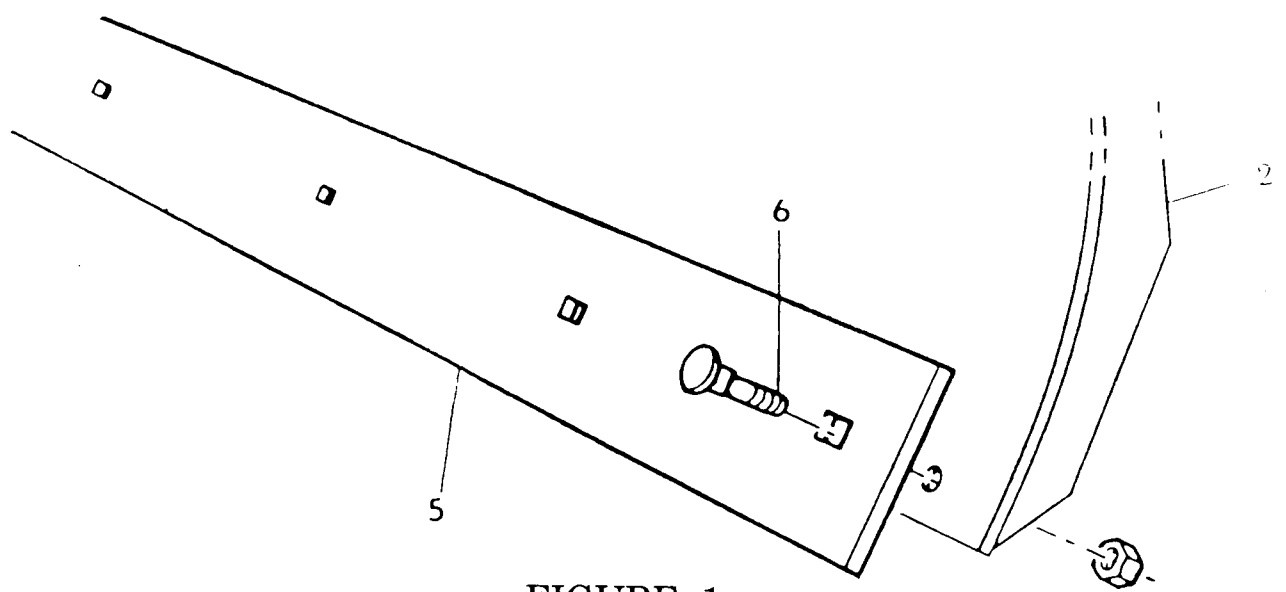

FIGURE 1
2. Attach the CUTTING EDGE (Ref. No. 5, Fig. 1) to the BLADE ASSEMBLY (Ref. No. 2, Fig. 1) using the GRADE 8 CARRIAGE BOLTS (Ref. No. 6, Fig. 1), the GRADE C SELF LOCKING NUTS and the 1/2" FLAT WASHERS.